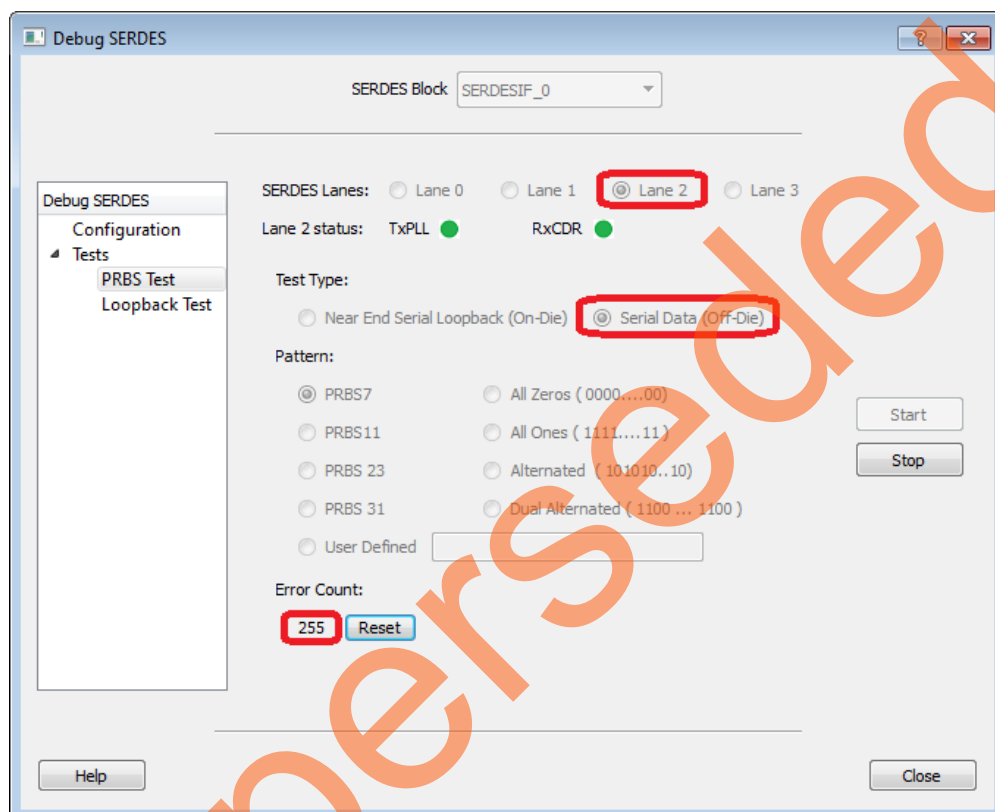

Figure 2-27 • Lane 2 Transmitting Data Off-Board
7. The Lane 2 SMA test connections can be used for interconnecting with high-speed coax cables to test equipment or other test fixtures like test backplanes. In the example shown in Figure 2-27, when the Lane 2 test is started without any means to connect the Tx and Rx together, the Error Count will increment; as the link is broken between the pattern generator and the checker. This setup will send a data pattern of the board for analysis on the test equipment, such as a high speed oscilloscope does